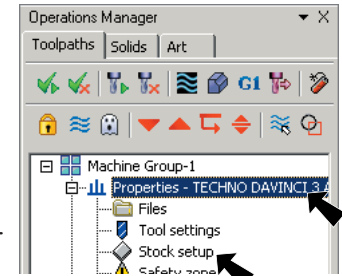

Fig. 1
Step 3. If Machine Group is **not** displayed in the Operations Manager, **Fig. 1**, click Machine Type Menu > Mill > Default.
Step 4. Expand **Properties** (click the +) in the Toolpaths Manager, **Fig. 1**.
Step 5. Click **Stock Setup** in the Toolpaths Manager, **Fig. 1**.